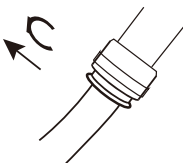

Fig.7
- 1). Remove the blue clasp out(Fig.7).